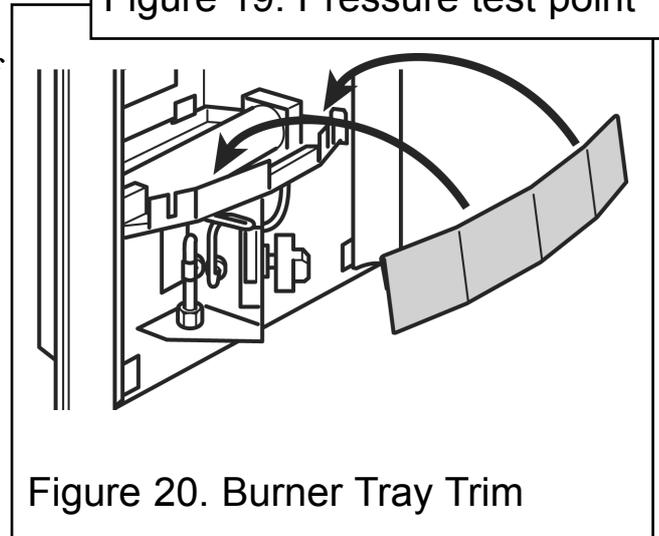

Figure 20. Burner Tray Trim
1. Fit the burner tray trim over the front rim of the burner tray. Push the trim fully down. See figure 20